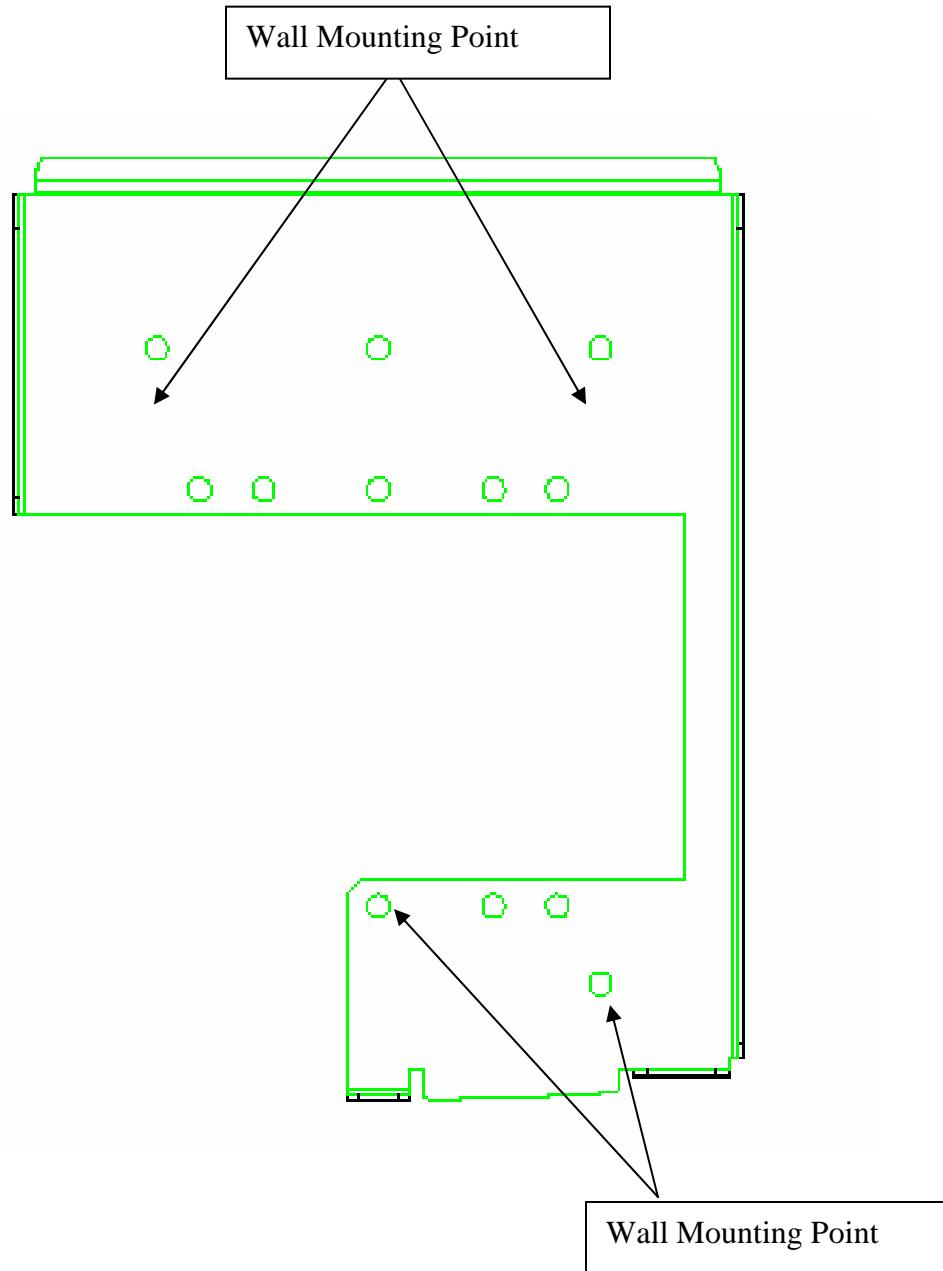

Figure 2
2. Using the sheet metal wall mounting bracket as a template and a level mark the four mounting holes shown in Figure 2 with a pencil or